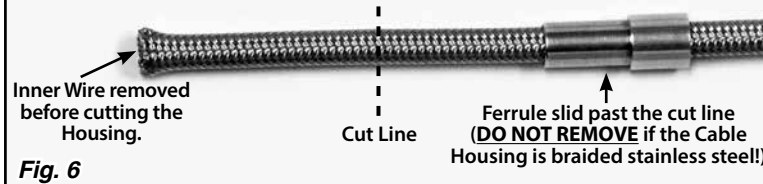

Fig. 6
Step 6: Route the cable housing up to the kickdown cable adjuster. **Make sure the inner wire is removed from the cable housing.** If the cable housing is braided stainless steel, slide the ferrule down the housing towards the aluminum switch box, away from the end being cut. **Fig. 6 DO NOT remove the ferrule if your cable housing is braided stainless steel!** If the cable housing is black universal or Vintage Series, remove the ferrule.